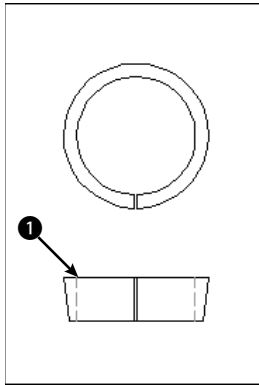

**Figure 9-9:** The valve piece in two views.
2. Save the file as ab09-06.dwg in your AutoCAD Bible folder. This drawing, shown in Figure 9-9, shows part of a valve that is manufactured in several sizes. In this exercise, you scale both views to represent a different-sized valve piece. Ensure that OSNAP is on. Set running object snaps for quadrant and endpoint.
Specify base point: *Use the Endpoint object snap at point 1 in Figure 9-9.*